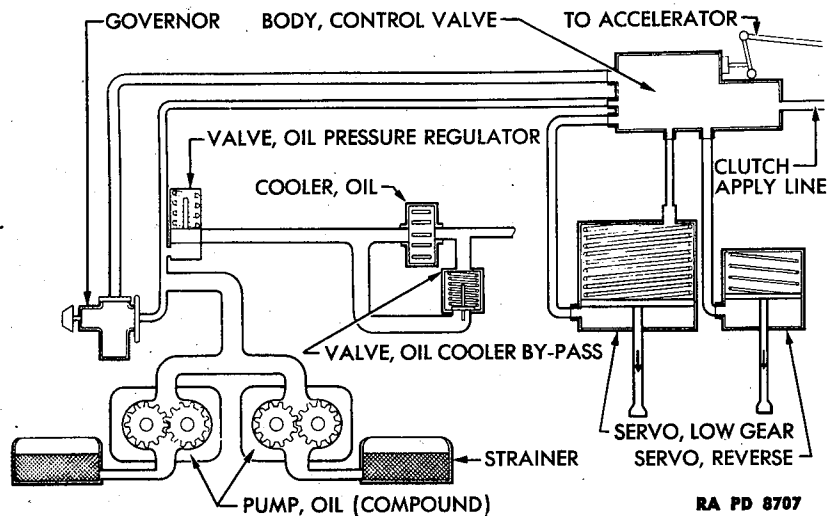

Figure 13 — Hydraulic Control System
e. Hydraulic Control System. The timing of the changes in gear ratios, either upshifting or downshifting, is the function of the hydraulic control system. This system is basically one of carefully balanced valves to provide a precise relationship between the velocity of the vehicle and the performance demands of the driver as expressed by the pressure on the accelerator. The hydraulic control units, illustrated in diagrammatic form in figure 13, consist of the following: a compound oil pump connected to an oil pressure regulator, a centrifugal-type governor, a control valve body containing the control valves and shift valves, and the necessary connecting passages.